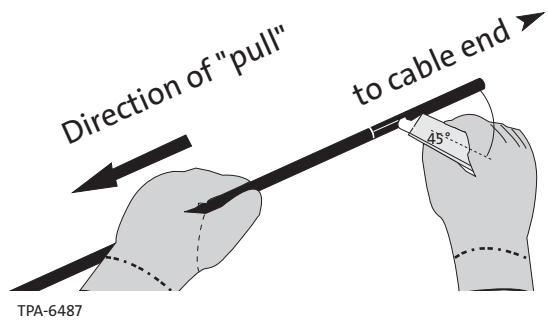

Figure 4
Step 4: Slit the 15 cm (6 in.) section of cable sheath by holding the arm which has the knife out straight and pulling the cable “through” the hook blade with your other hand (Figure 4).